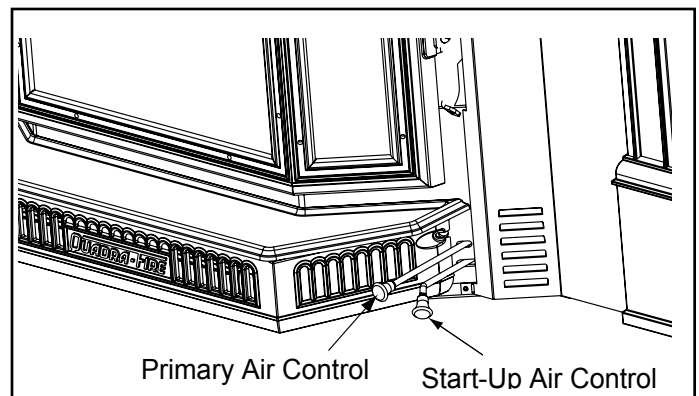

Figure 19A
3. Open Start-Up Air Control (bottom rod) and Primary Air Control (top rod) fully. **See Figure 19A on page 19.**
The next stage of burning, the secondary stage, is the period when the wood gives off flammable gases which burn above the fuel with bright flames. During this stage of burning it is very important that the flames be maintained and not allowed to go out. This will ensure the cleanest possible fire. If you are adjusting for a low burn rate, you should close down the air to the point where you can still maintain some flame. If the flames tend to go out, it is set too low for your burning conditions. The air control, located at the right of the grille, top rod, is the one used to adjust for burn rates. This is called the Primary Air Control. **Figure 19A.**